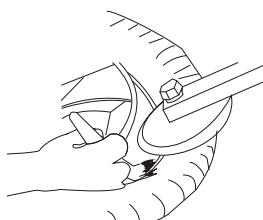
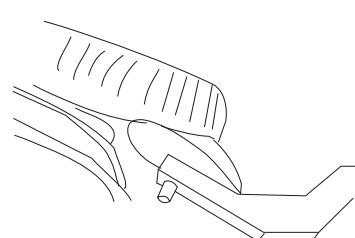

Fig 7
Fig 8
2. Adjust the flange center position by the controller; lower the upper bead breaker disk to within 20mm over the rim until the upper bead is broken away from the wheel rim, lubricate as shown in Fig 7 within depress the rotating pedal. Raise the lower bead breaker disk; by pressing up its controller on the control panel to break the lower bead away from the wheel rim, and then lubricate the tire beads with depress the turntable rotation pedal until full lubrication (Fig 8)